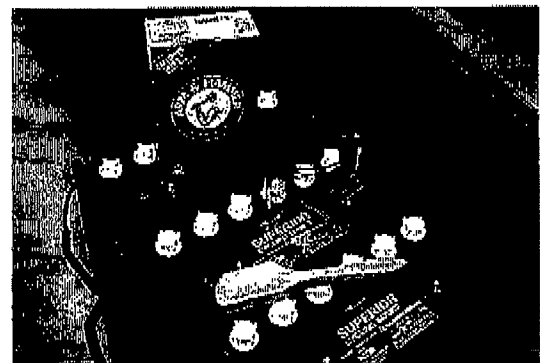

FIG. 41
- a. Mix a strong solution of baking soda and water (Figure 41).